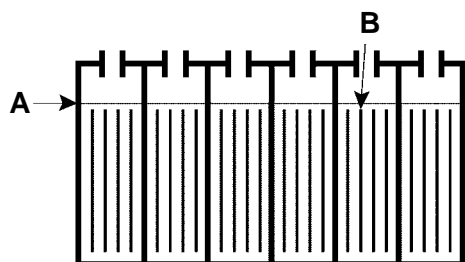

FIG. 28
4. Before charging, check the electrolyte level (A) in each battery cell. If battery plates (B) are exposed, add just enough distilled water to cover plates. DO NOT OVERFILL. Overfilled batteries can overflow during charging due to fluid expansion. Replace cell caps before charging (Figure 28).